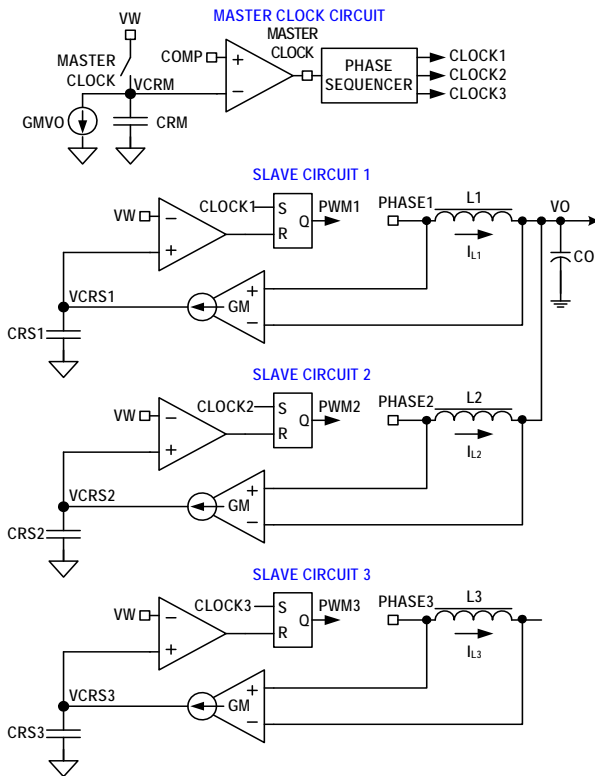
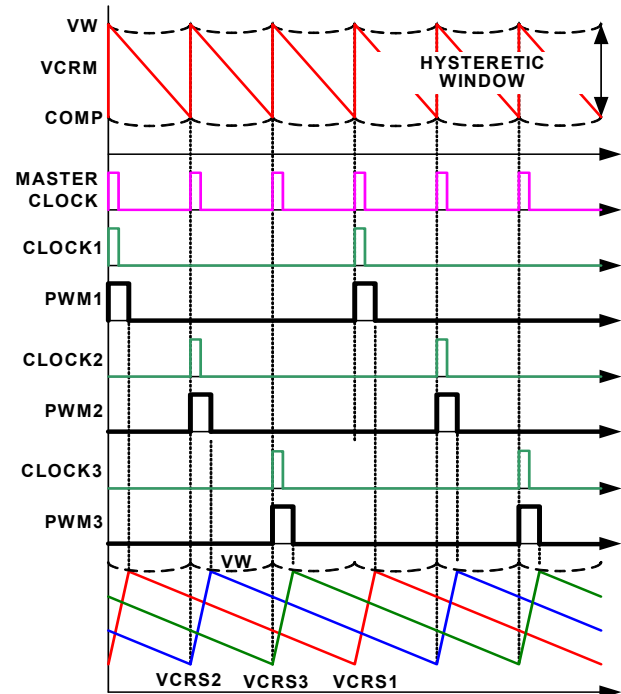

FIGURE 7. R³™ MODULATOR CIRCUIT
FIGURE 8. R³™ MODULATOR OPERATION PRINCIPLES IN STEADY STATE
The ISL6277 is a multiphase regulator implementing two voltage regulators, CORE VR and Northbridge (NB) VR, on one chip controlled by AMD's™ SVI2™ protocol. The CORE VR can be programmed for 1-, 2- or 3-phase operation. The Northbridge VR can be configured for 1- or 2-phase operation. Both regulators use the Intersil patented R³™ (Robust Ripple Regulator) modulator. The R³™ modulator combines the best features of fixed frequency PWM and hysteretic PWM while eliminating many of their shortcomings. Figure 7 conceptually shows the multiphase R³™ modulator circuit, and Figure 8 shows the operation principles.